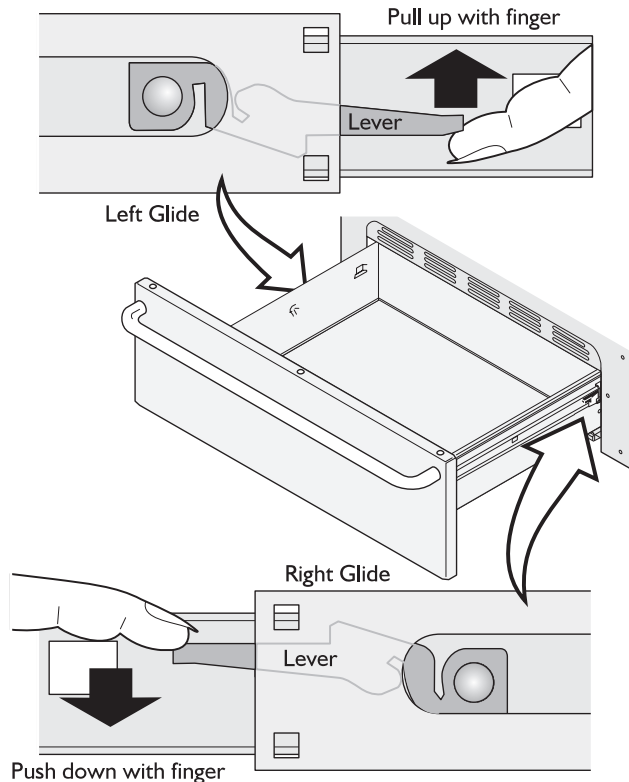

Figure 1
- Locate glide lever on each side of drawer, pull up on the left glide lever and push down on the right glide lever (See Figure 1).